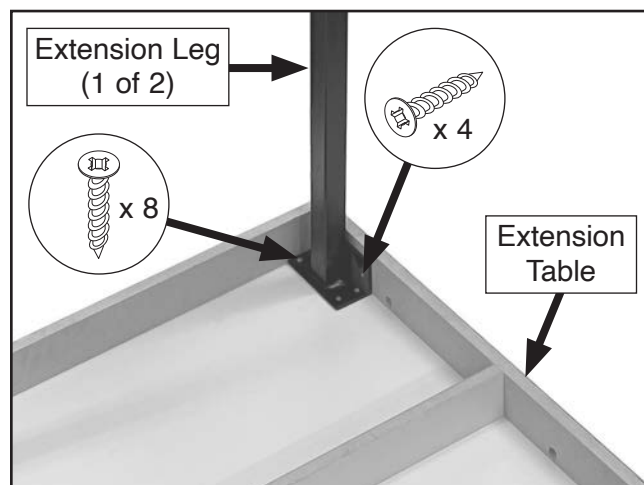

Figure 23. Extension leg attached to bottom of table.
9. At corners of one end of extension table, position each extension leg upright 90° to bottom of table, then mount with (12) #8 x 3/4" wood screws (see **Figure 23**).